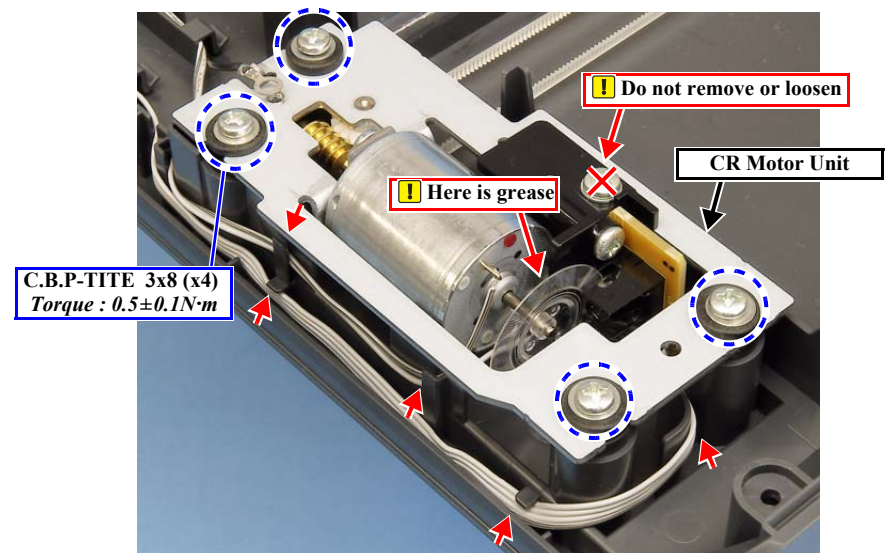

Figure 4-45. CR Motor Unit 2
- Do not remove or loosen the screw marked with X for the CR Motor Unit shown at right. Remember that the CR Motor Unit must be replaced with a new one if the encoder is shifted from the correct position. (Fig. 4-45)
5. Remove the screw and washers (x4) securing the CR Motor Unit. (Fig. 4-45)
- Route the cables as shown. (Fig. 4-44, Fig. 4-45)